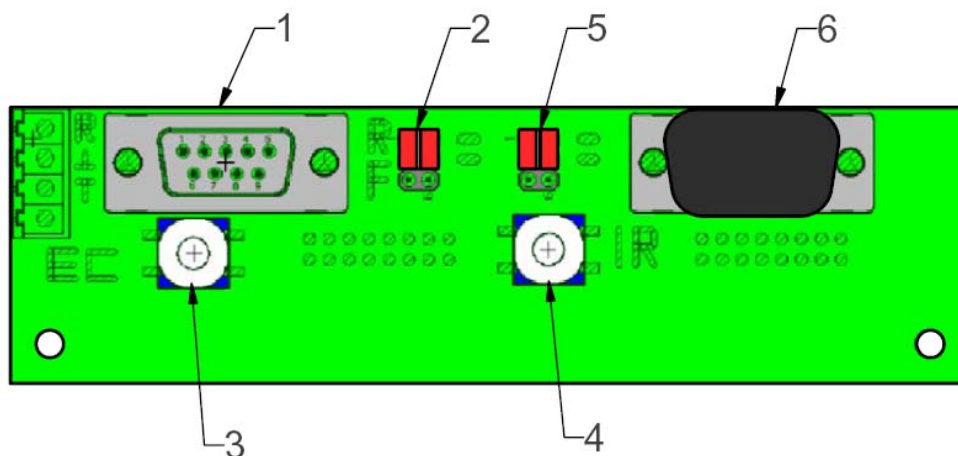

Figure 9: Interface board
Set jumper (2) to the lower position (figure 9). Switch on line power and push the reset button (3).
New software can now be loaded to the flash memory – just press start. Upon completion reset the two jumpers (figure 9) to the upper position. Cycle the instrument power off then on to display the current software and version number.